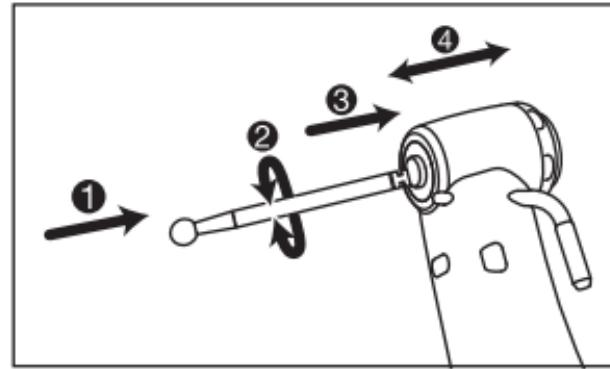

Fig. 1
- 1) Insert the bur/drill into the head.(Fig. 1 ①)
- 2) Lightly turn the bur/drill until it engages with the latch mechanism. (Fig. 1 ②)
- 3) Push bur/drill inward to click then it locks. (Fig. 1 ③)
- After the bur/drill is locked in place, lightly pull out the bur/drill to make sure the bur/drill is locked. (Fig. 1 ④)